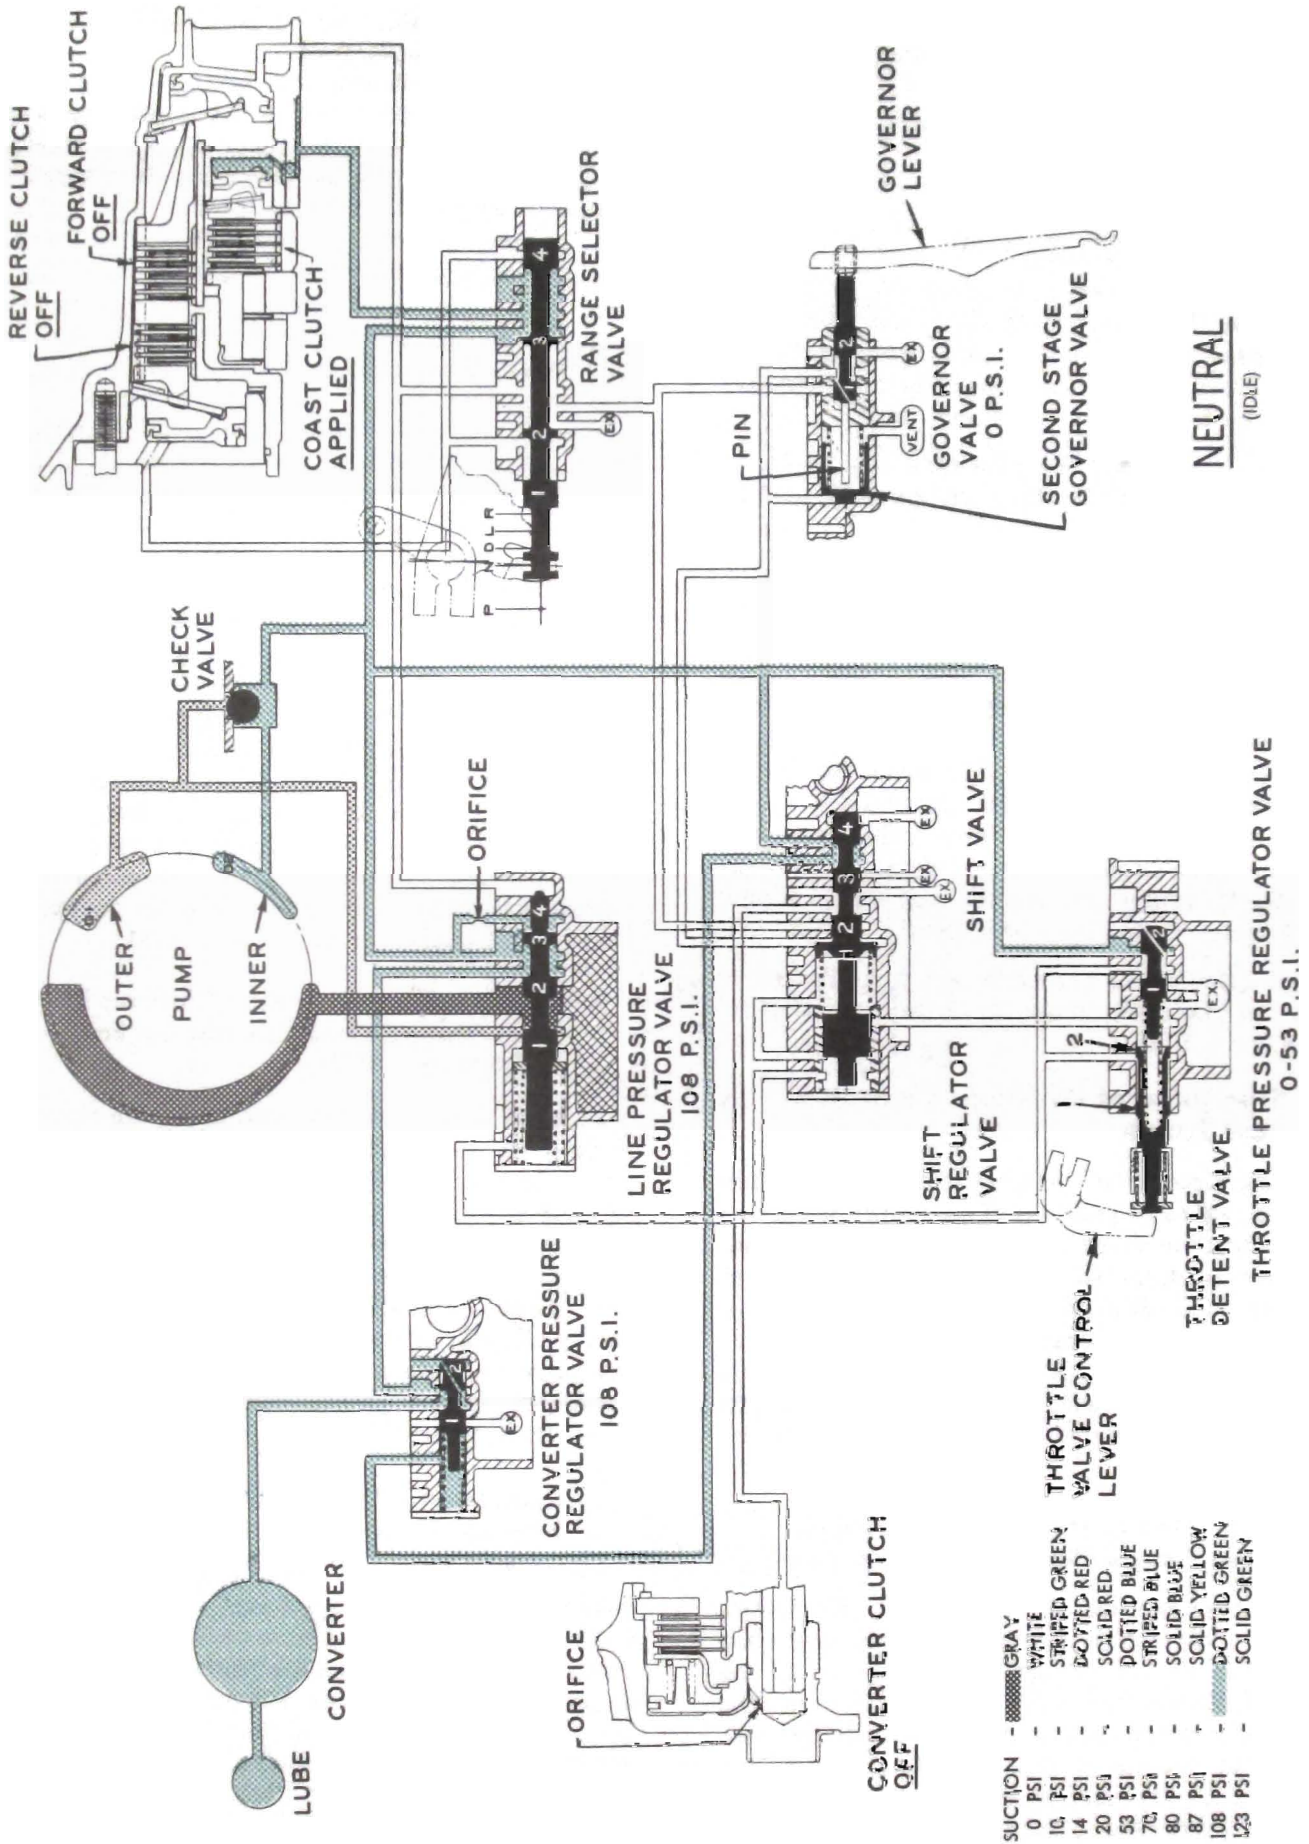

Figure 5-28—Oil Flow in Neutral and Park
**NOTE:** The pressures indicated on Figures 5-28, 5-29, 5-30, 5-31, 5-32, 5-33 are calculated pressures only. Due to manufacturing tolerances, these pressures may not be attained, although the transmission is functioning perfectly.
During operation in Neutral, the range selector valve is positioned as shown in Figure 5-28. In Park range, the valve is positioned further to the left. In both Neutral and Park, oil supply to the reverse and forward clutches is cut off and an exhaust port is opened to disengage the clutches. The coast clutch is engaged in Neutral and Park range to couple the overrunning clutch cam to the rear sun gear.
Thus, the converter members are allowed to turn, but transmit no torque to the output shaft. See Figure 5-28.